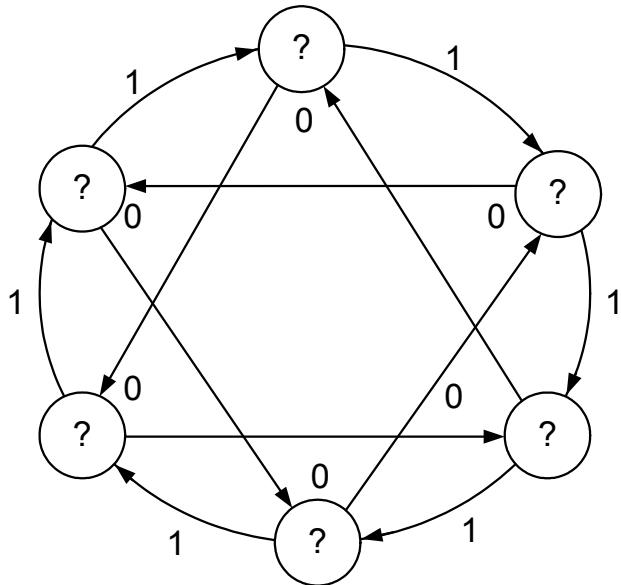

Figure 10-2: State Graph for the sequence counter of part 2.
A general sequence counter is to be designed such that it counts in a fixed loop for $X=1$ and skips every next state for $X=0$, as shown in Figure 10-2. The design steps to implement this counter are similar to the design steps taken to implement the Modulo-4 counter in part 1.
2. Design the sequence counter of Figure 10-2 in the schematic tool of the ISE using the required number of D flip-flops (fd) under Flip Flop category (one for each bit of storage). Draw a logic schematic in your notebook of the final design.